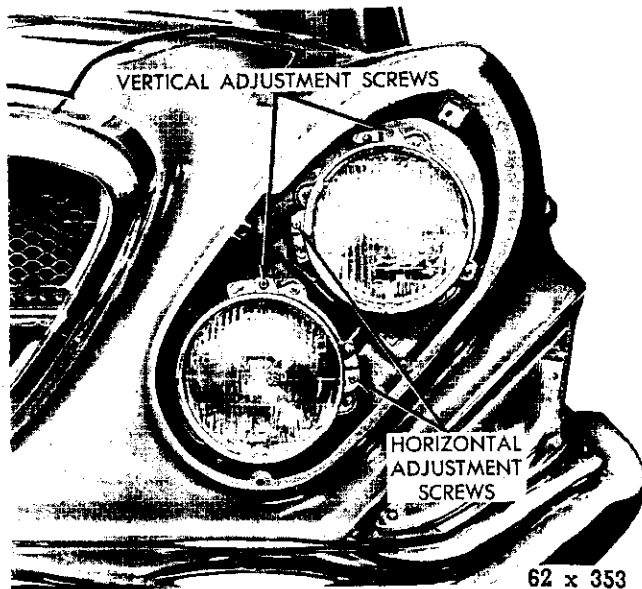

Fig. 94—Headlamp Adjustment Points (Chrysler)
ADJUSTING THE HEADLAMPS (Figs. 94 and 95)
(2) While sighting through the viewing port of the aimer, turn the horizontal adjusting screw (Figs. 94 and 95) on the headlamp until the split image target line merges into one unbroken line. To remove the backlash, be sure to make a final adjustment by turning the headlamp horizontal adjusting screw in a clockwise direction.
(3) Make the horizontal adjustment on the other outboard headlamp in the same manner.
(4) Remove the aimers, from the outboard headlamps, by releasing the spring lock at the rear (bottom) of the aimer and pushing the release lever forward. Do not attempt to remove the aimers by pulling them away from the headlamp lens — slide the suction cup downward and away from the lens.